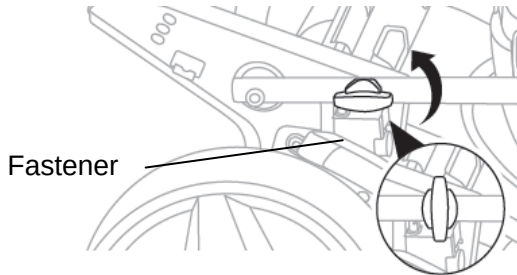

Fig.2A
1. Unscrew the locking knobs on the lower handle from the locking position.(Fig.2A)